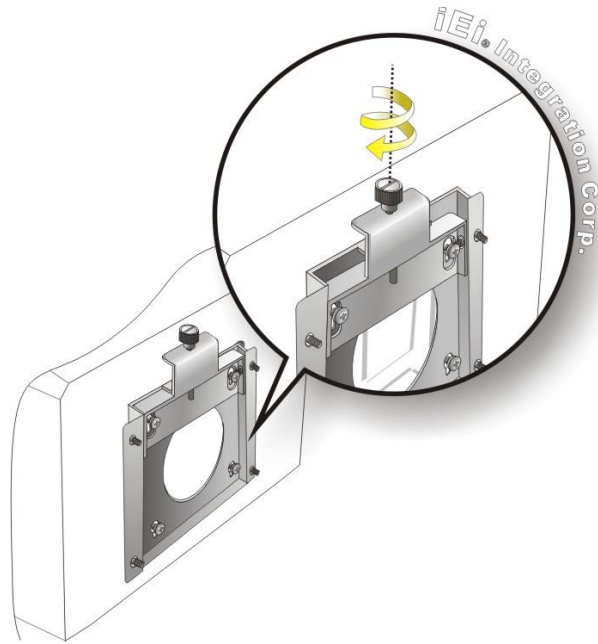

Figure 3-17: Secure the Panel PC
Step 9: Secure the panel PC by fastening the retention screw of the wall-mounting bracket (**Figure 3-17**).